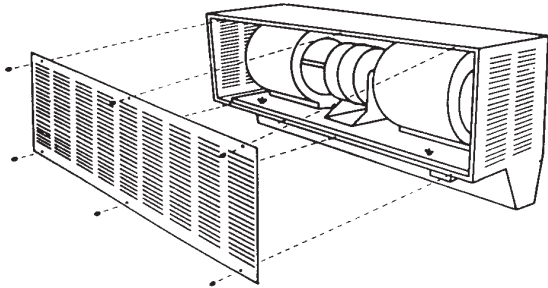

Figure 3 - Removing Air Intake Grille
4. Unscrew six (6) knurled nuts and remove air intake grille. (See Figure 3.)